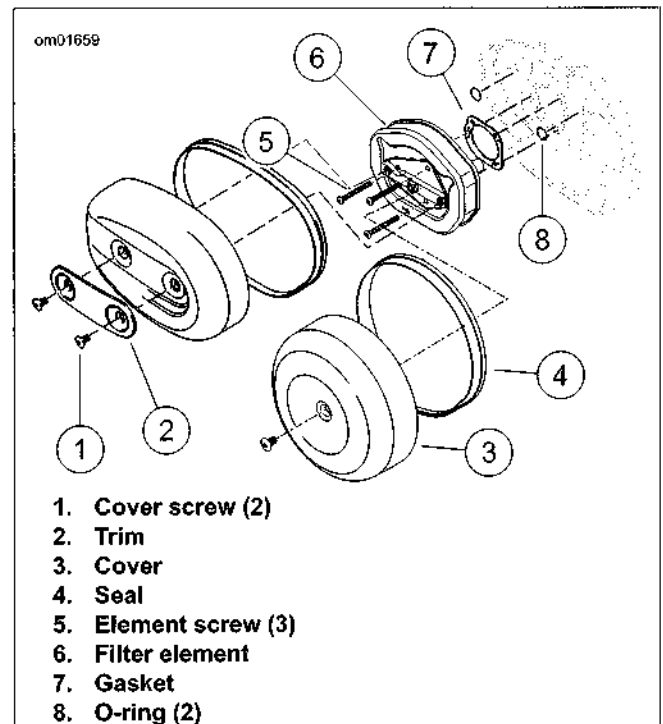

Figure 1-9. Air Cleaner
1. See Figure 1-9. Remove the fasteners (1) and any trim insert (2) from the air cleaner cover (3).
2. Remove air cleaner cover. Remove cover seal (4) from the cover.
3. Remove three fasteners (5). Remove the filter element (6) and the gasket (7) from the backplate. Discard the gasket.
4. Inspect the O-rings (8). Replace or repair as necessary.
1. See Figure 1-9. Apply a thin coat of engine oil or light grease to the O-rings (8).
2. Position a **new** gasket (7) on the air cleaner. Line up the gasket holes with the backplate holes.